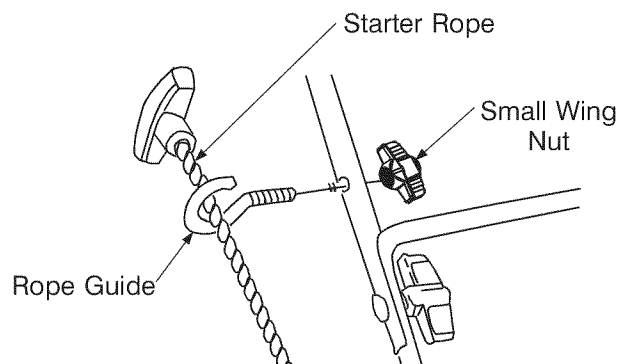

Figure 4
- Remove the small wing nut and the rope guide from the starter rope. See Figure 4.